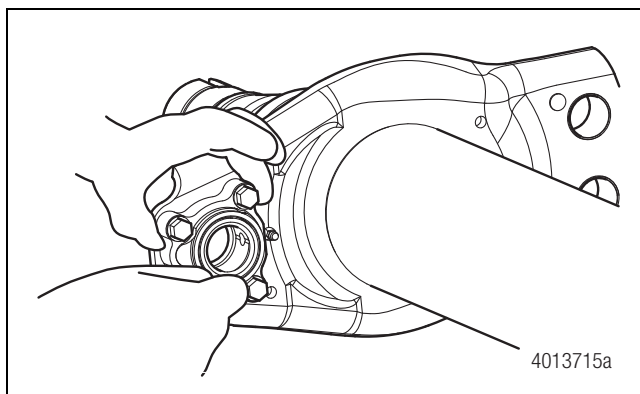

Figure 11.53
15. Place the bolt-on bushing housing into position on the spider and hand start the four retaining bolts and washers. Figure 11.53.